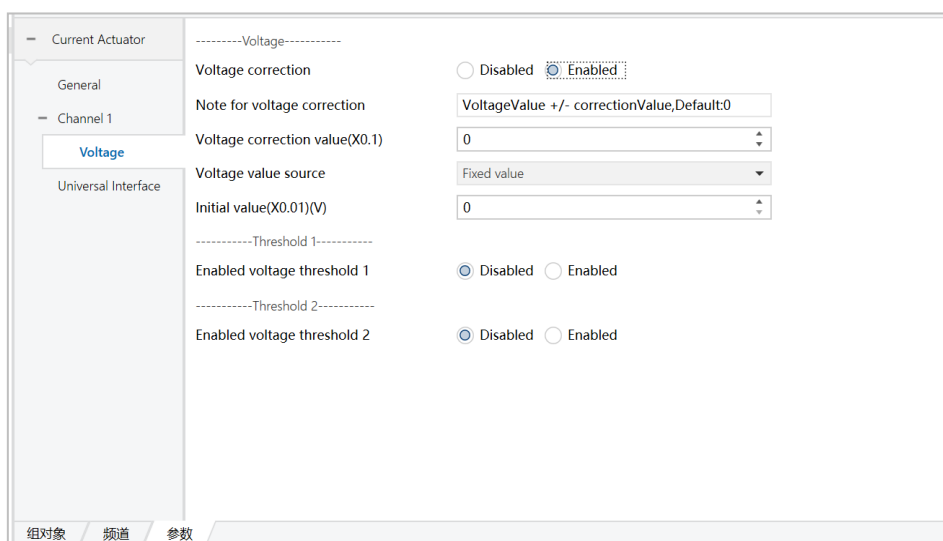

Figure 6.2.4
(2) Click the option in the red box above, set the parameters, the following Channel 1 as an example, as shown in Figure 6.2.4